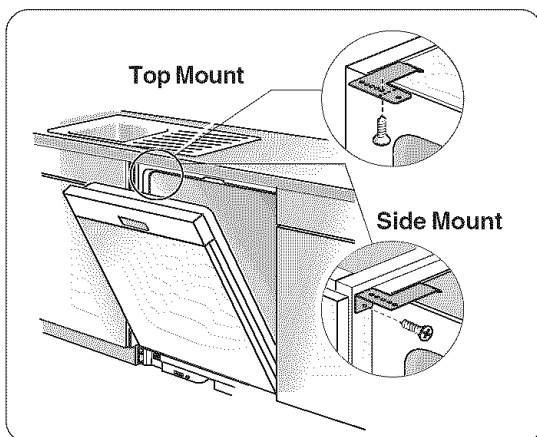

Figure 21
- 1 Drive the mounting screws through the holes in the mounting brackets as shown in **Figure 21** for Top Mount or Side Mount.